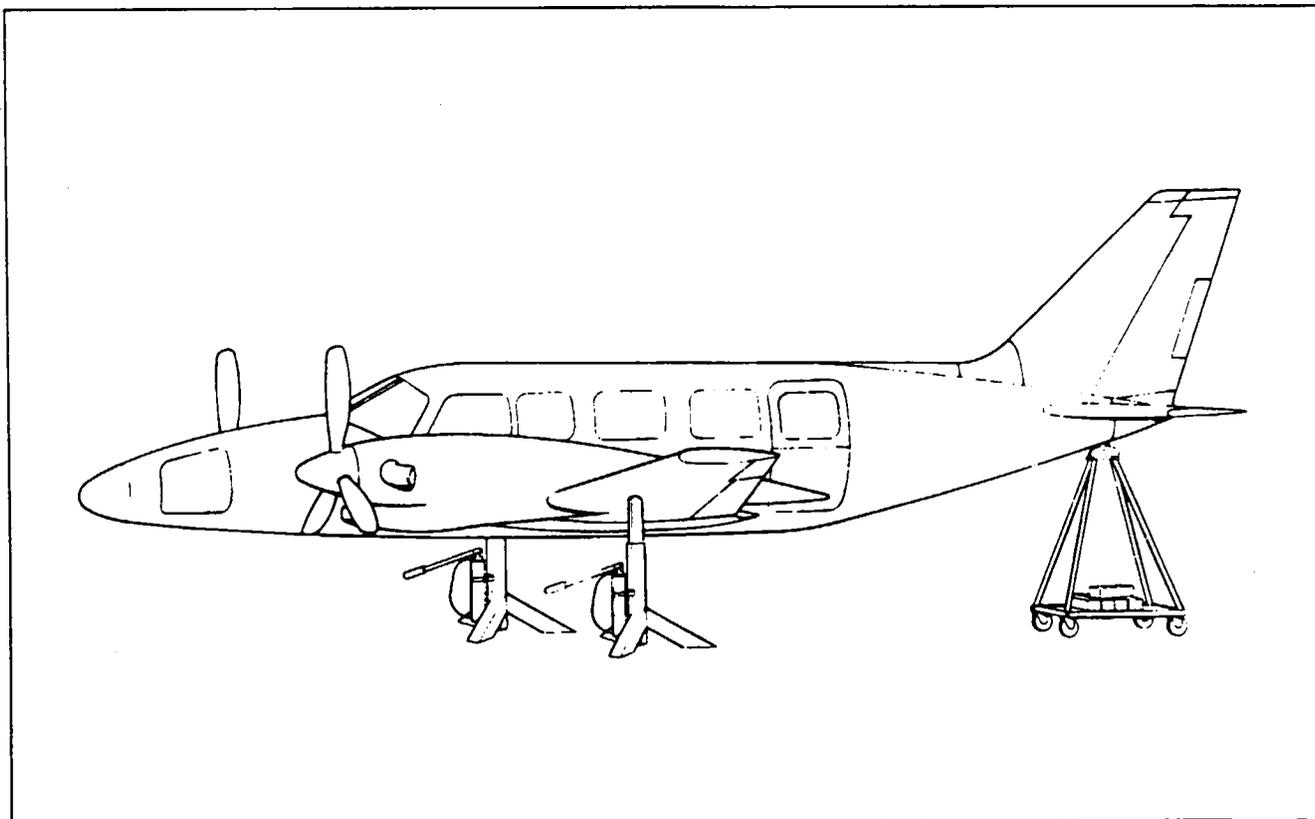

Figure 7-1. Jacking Arrangement
**JACKING.** (Refer to Figure 7-1.)